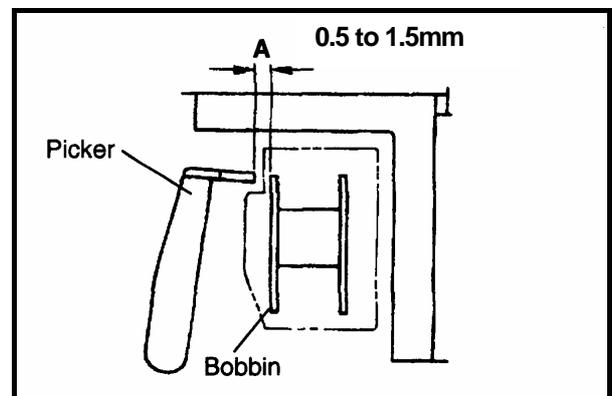

FIG.1
- (1) Remove the table set.
- (2) When the picker solenoid is on, clearance A between the picker tip and the bobbin must be 0.5 to 1.5mm (Fig.1).